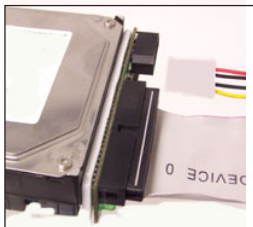

Figure 6
6. Connect a power connector from the system power supply to the *IDE to SATA Adapter*, refer to **Figure 6** and **7**.